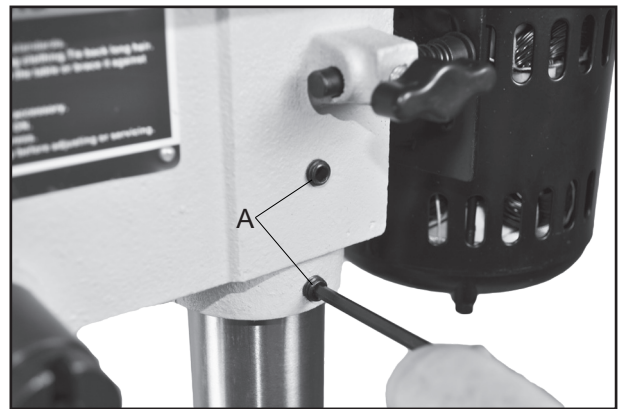

Fig.04
4. Center the drill press head over the table and base. Tighten the drill press head into position by locking the two hex screws on the side of the casting. (A-Fig.04)